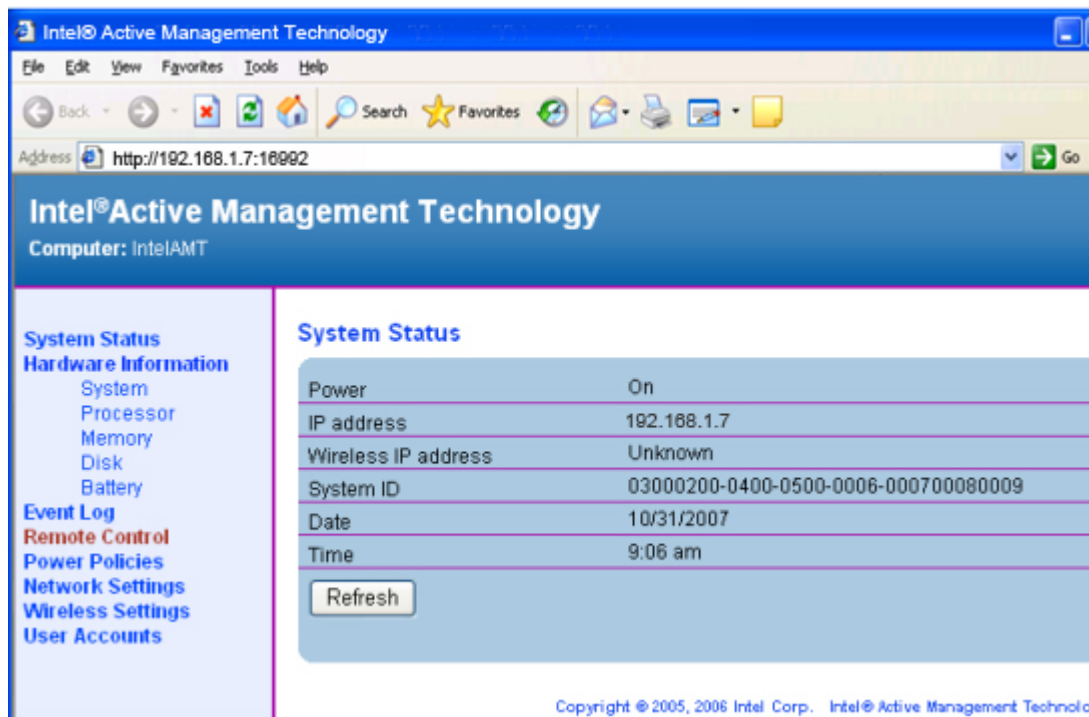

Figure 6-13: Intel® AMT Web Interface
Step 8: Press **OK** and the Intel® AMT web interface appears (**Figure 6-13**).